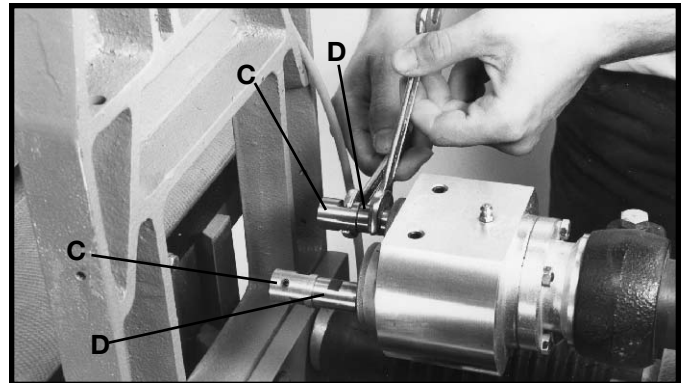

Fig. 15
3. Carefully thread drill bit adapters (C) Fig. 15, supplied, into spindles (D) and tighten drill bit adapters (C) in position using wrenches on flats of adapters and spindles as shown.